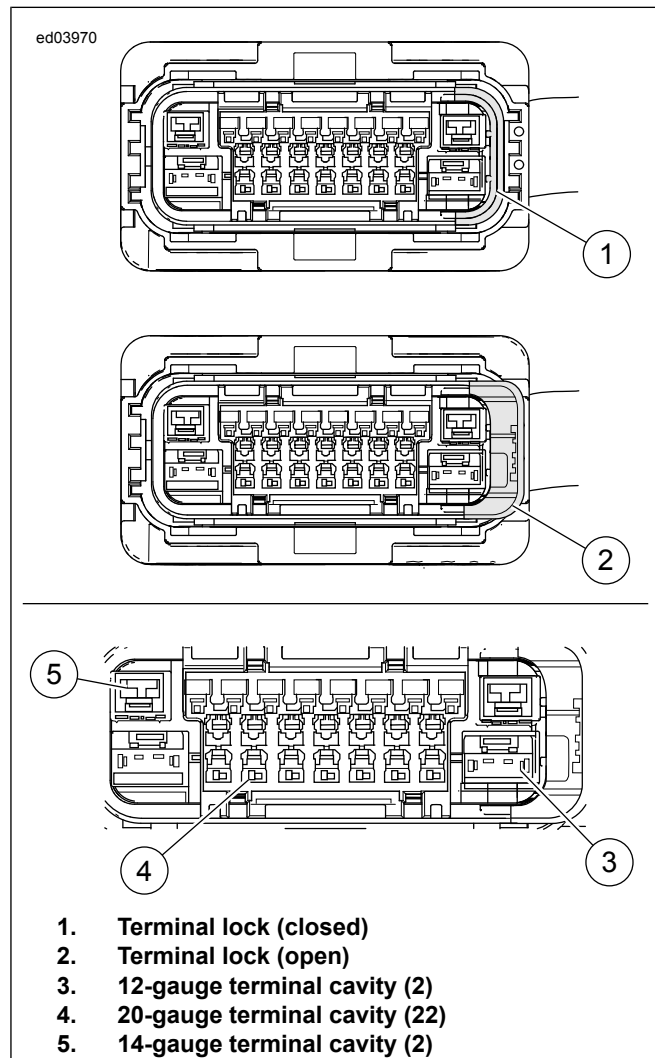

Figure B-3. Bosch BTC Terminal Lock
5. See Figure B-3. With the blade of a small screwdriver, gently pry the terminal lock open.